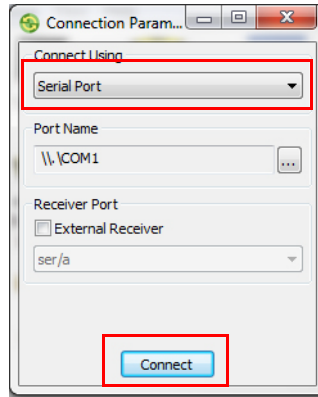

Figure 16: Connection Parameters Window
- c. In the **Connection Parameters** window (Figure 16), select **Serial Port** and the port name, and then click **Connect**.